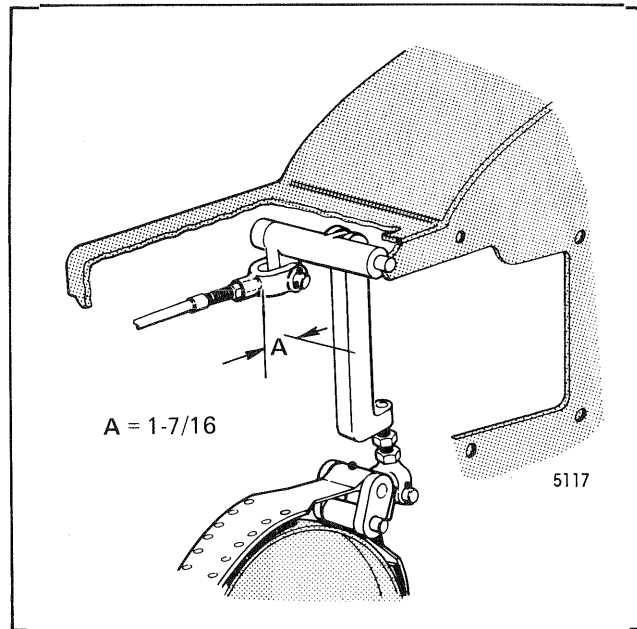

FIGURE 9-4. ADJUSTMENT OF BRAKE LINKAGE, DIRECT DRIVE WINCH
9-15. BRAKE HANDLEVER ADJUSTMENT. (See Figure 9-4.)
c. Adjust the control cable at the winch control housing end until dimension (A) is obtained (distance between the cable end and the surface of the connecting link).
f. Adjust the push-pull cable at the Brake Handlever end (see Figure 7-1) until dimension (A), Figure 9-4 is obtained.